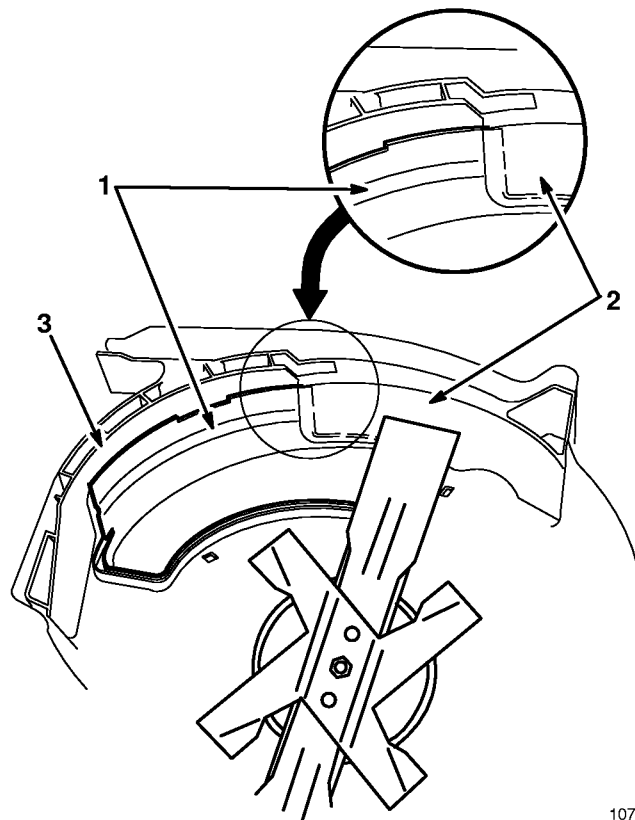

Figure 51
- Check clearance between blade tips and mulch plate baffle making sure there is no contact (Fig. 51).